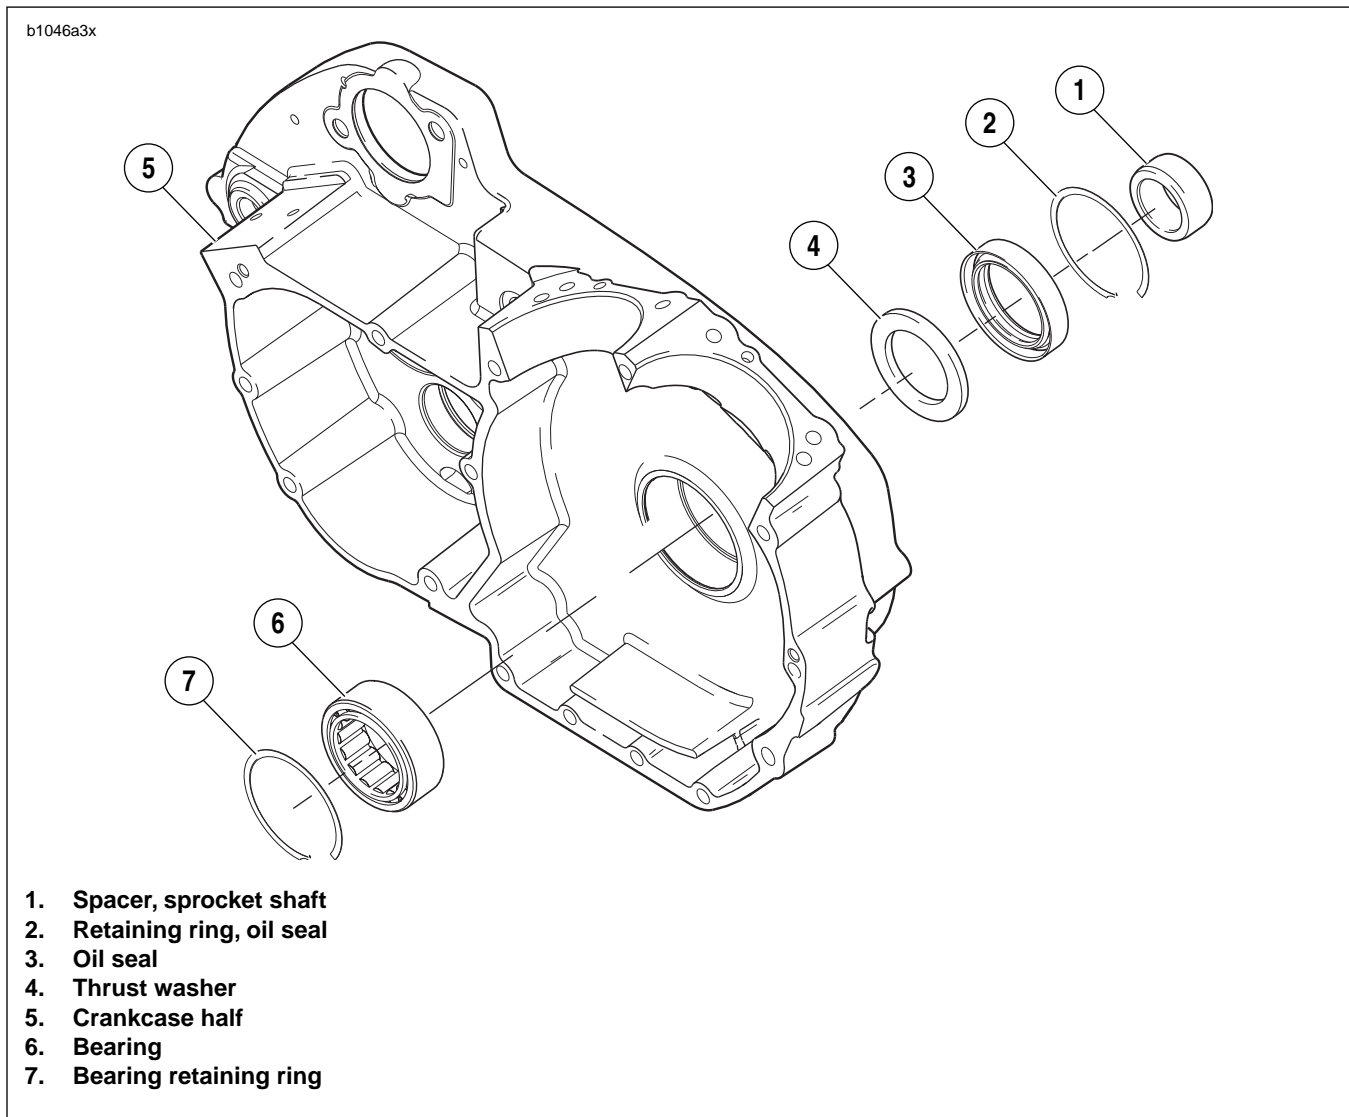

Figure 3-152. Sprocket Shaft Bearing Assembly
9. See Figure 3-152. Install thrust washer (4) from the outside against the sprocket shaft bearing.
10. Install **new** spacer (1) in seal ID. With the thin (lipped) side facing outward, center seal/spacer assembly over bearing bore.